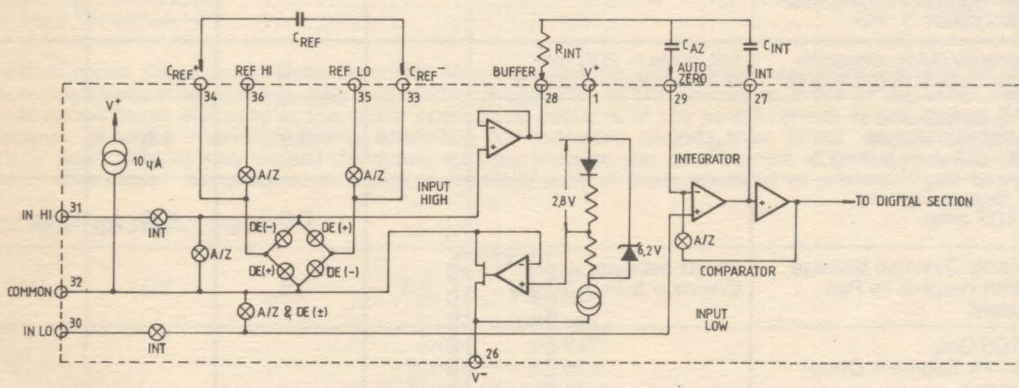

Figure 3: Analog Section of 7106/7107
Figure 3 shows the Block Diagram of the Analog Section for the MMC 7106 and 7107. Each measurement cycle is divided into three phases. They are (1) auto-zero (A—Z), (2) signal integrate (INT) and (3) deintegrate (DE).
Fig.3 7107 with Zener diode reference. Since low T. C. Zeners have breakdown voltage $\sim 6.8 V$, diode must be placed across the total supply (10V). IN LO may be tied to either COMMON or GND